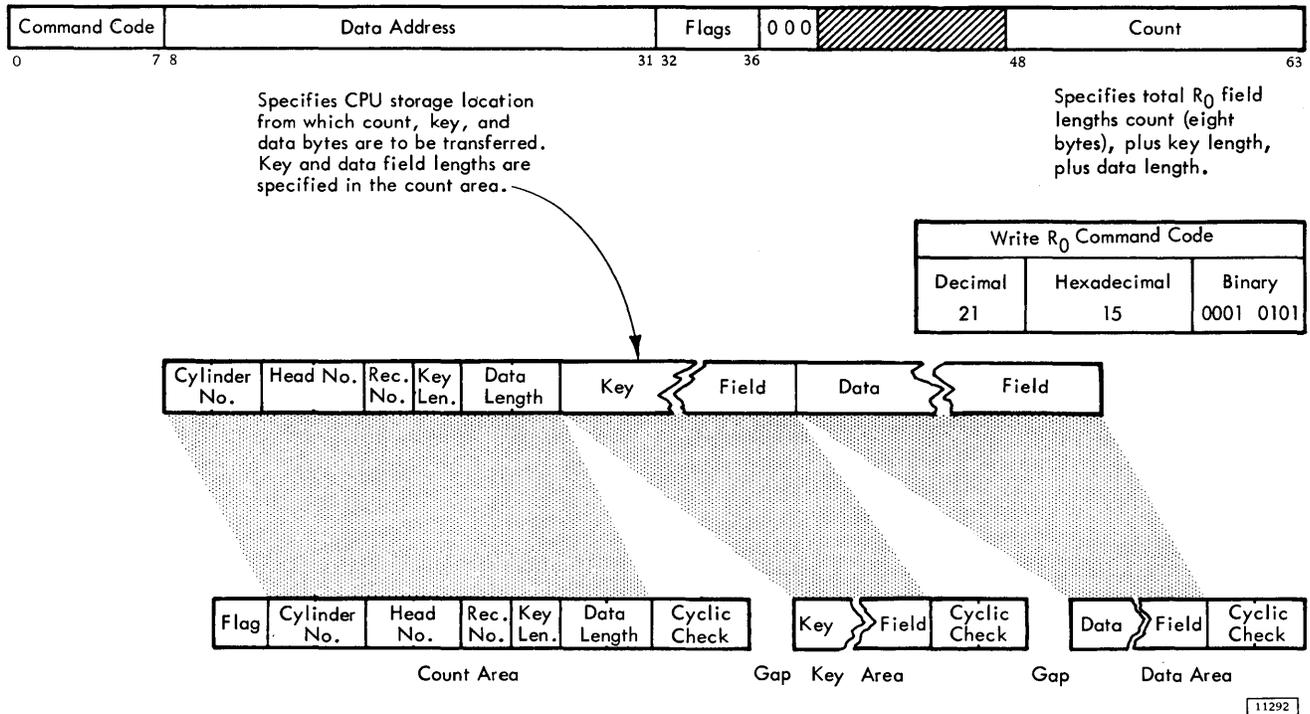

Figure 10, Write R0
**Write Track Descriptor Record (Write R0).** This command causes specified data to be transferred from main storage to the storage device (Figure 10).